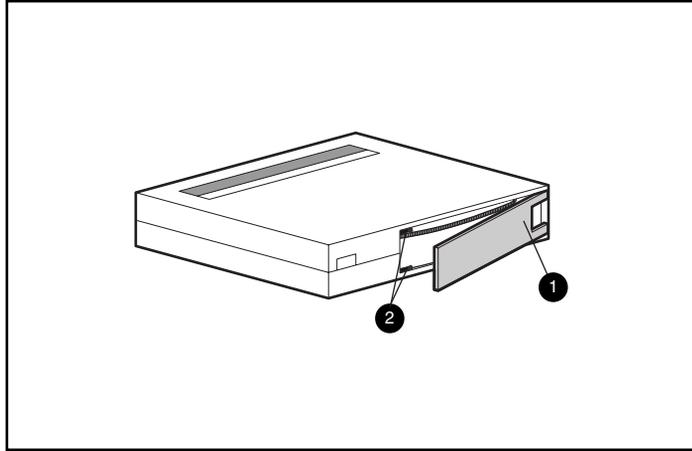

Figure 6: Checking the tape leader
- If it doesn't rattle, check the tape leader ❷ inside the cartridge. To do this, open the door on the rear of the cartridge by releasing the door lock ❶. The tape leader should be in the position shown in Figure 6.